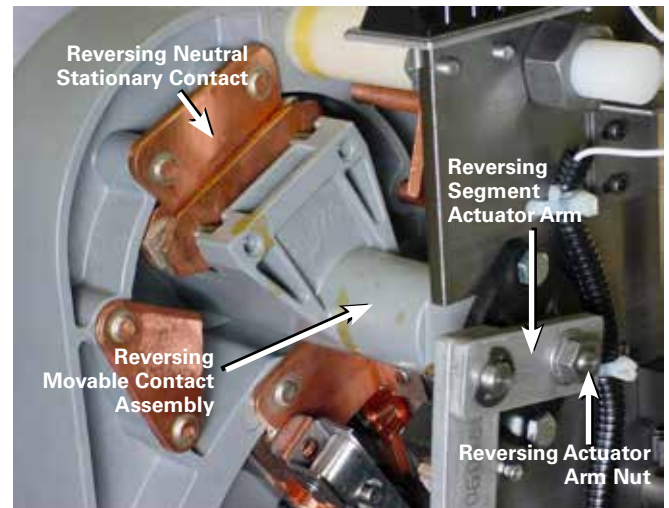

Figure 54. Reversing actuator arm nut removal.
1. Hold the reversing movable contact assembly to prevent it from moving. Using a 9/16" wrench, loosen and remove the reversing actuator arm nut. See Figure 54.